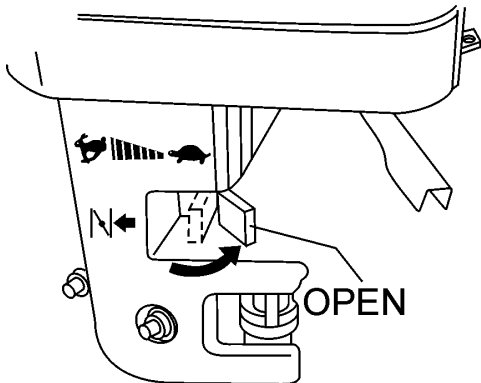

Figure 23. Choke Lever (Open)
5. If starting a warm engine place the **choke lever** (Figure 23) in the "OPEN" position.